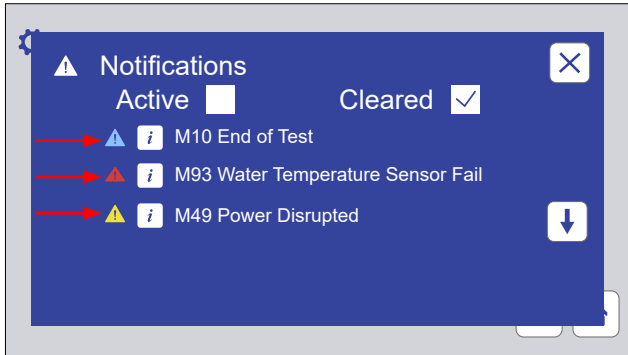

Figure 8.5e: Color coded icons show notification type.
- Color-coded attention icons indicate the type of notification (Figure 8.5e).